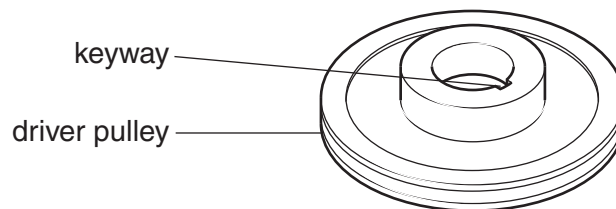

Fig. 6
- (ii) Fig. 6 shows the keyway in the driver pulley of the circular saw. [2]
- Explain the purpose of the keyway shown in Fig. 6. [2]